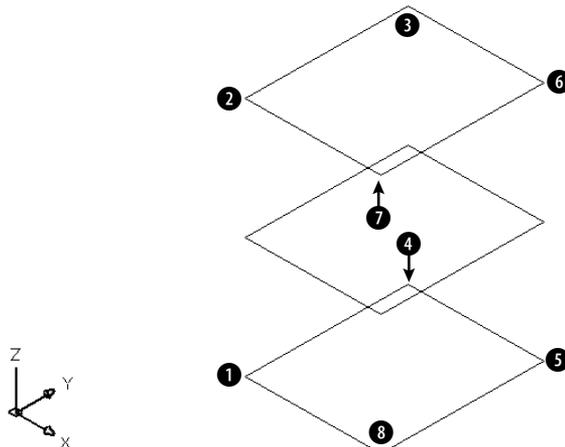

Figure 23-4: The three 3D faces from an isometric viewpoint.
5. Choose View ⇨ 3D Views ⇨ SE Isometric. Your drawing should look like Figure 23-4. You now have the top, bottom, and middle shelf of the cabinet.
Specify first point or [Invisible]: *Pick the endpoint at ① in Figure 23-4.*
- To draw the door of the cabinet, change the current layer to CONST. Start the LINE command and draw a line from ② in Figure 23-4 to @18<225. End the LINE command. Now start the COPY command and copy the line from ② to ①. These two construction lines frame the door.
Specify point on positive portion of X-axis <-0'-5 3/4",-0'-6 3/4",0'-0">: *Pick ① in Figure 23-4.*